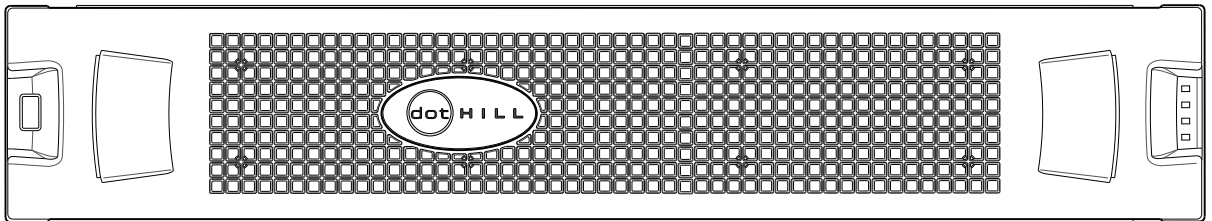
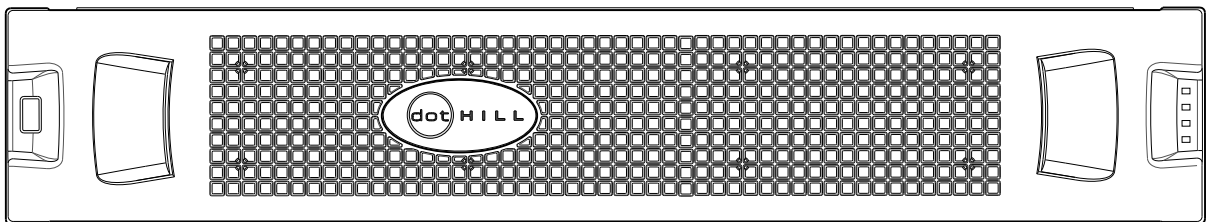

Figure 27 Front panel enclosure bezel: 24-drive enclosure (2U24)
Figure 28 Front panel enclosure bezel: 12-drive enclosure (2U12)
Each AssuredSAN 4004 Series enclosure is equipped with a removable bezel designed to cover the front panel during enclosure operation. The bezels look very similar, but there are differences between the two models. The bezel fitting the 2U24 chassis provides two embossed pockets used during bezel removal (Figure 27); whereas the bezel fitting the 2U12 chassis provides two debossed pockets, is equipped with an EMI (Electromagnetic Interface) shield, and may or may not be equipped with the serviceable dust filtration air filter option (Figure 28).
- Front view of 24-drive enclosure (2U24): Figure 27
- Front view of 12-drive enclosure (2U12): Figure 28